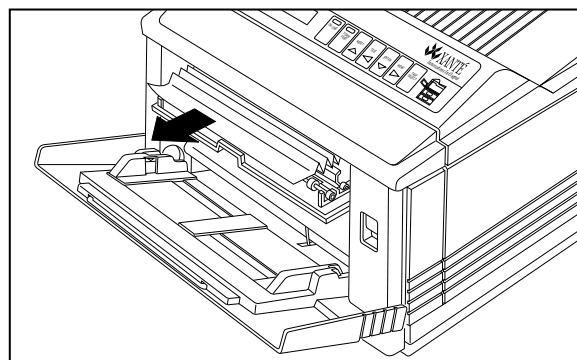

Fig. 10.6 Remove Media from the Fuser Cover Area
7. Close the front cover; then, open the fuser cover and check that area for a jam. If found, remove the jam by pulling the media out in the direction of the arrow in figure 10.6.